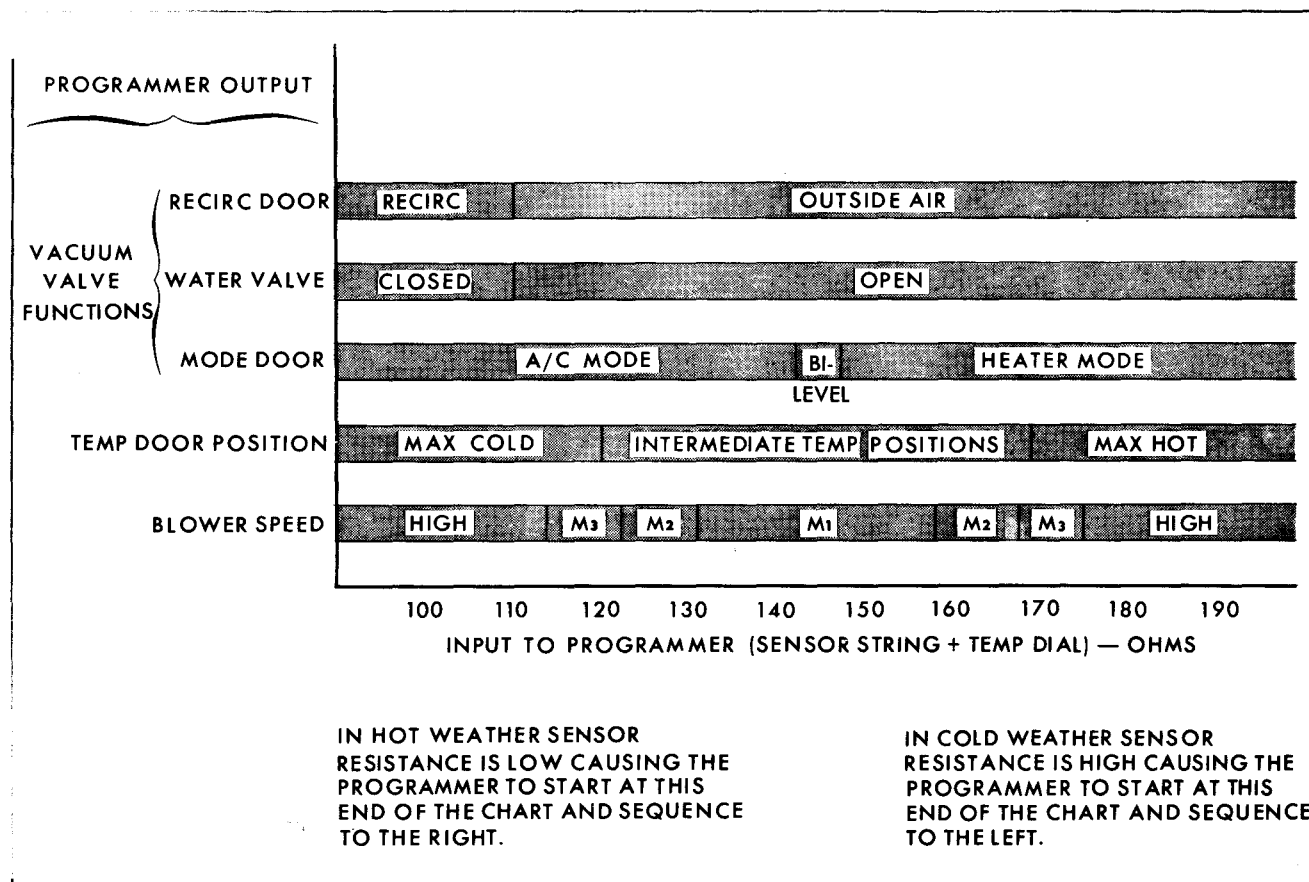

Fig. 1-29 Programmer Input-Output Chart
Input-output characteristics of the programmer are shown in Fig. 1-29. Input is resistance in ohms; output consists of the five functions listed above. Several examples are listed below to provide further understanding.
1. Assume the car is stabilized on a sunny 80° day with the in-car sensor being maintained at 75° with a 75° temp dial setting. The resistance of the ambient sensor at 80° is 32 ohms, the in-car sensor resistance at 75° is 68 ohms, and the temp dial resistance at the 75° setting is 36 ohms. These three resistances total 136 ohms. Referring to Fig. 1-29, this resistance will position the programmer to produce M₁ blower speed, an intermediate discharge air temperature (approximately 60°), A/C mode, an open heater water valve and outside air.
output current to increase which would cause the transducer output vacuum to the vacuum motor to decrease so that the new point of operation would be at the 130 ohm point in Fig. 1-29, producing M₂ blower speed and colder discharge air. The system would still be in A/C mode, with the water valve open, utilizing outside air. In this way, the in-car temperature is maintained at 75° despite the change in ambient temperature.